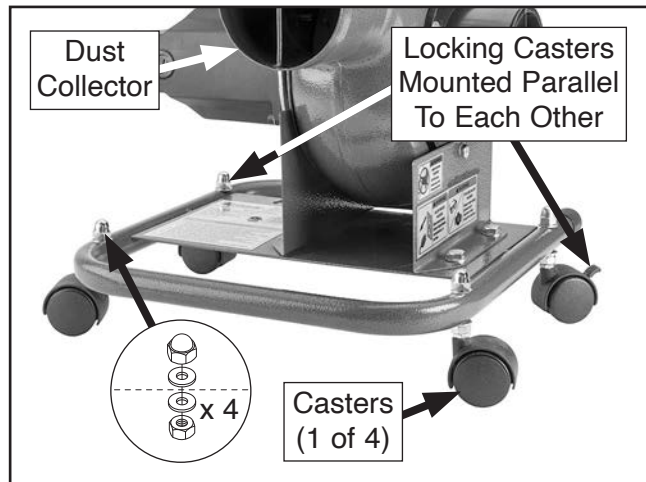

Figure 6. Casters attached to dust collector.
1. Thread (1) M8-1.25 hex nut with (1) 8mm flat washer onto caster, insert it through hole in dust collector base, then secure caster with (1) 8mm flat washer and (1) M8-1.25 acorn nut (see **Figure 6**).